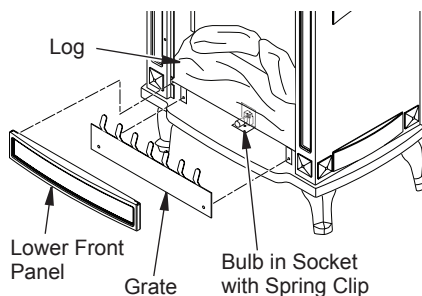

Figure 5 - Ember Bed Bulb Location
2. Push in and up on lower front panel. The panel slides into notches on front sides of stove as shown in Figure 5.